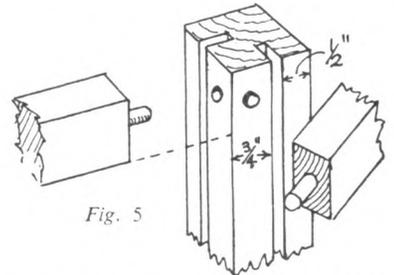
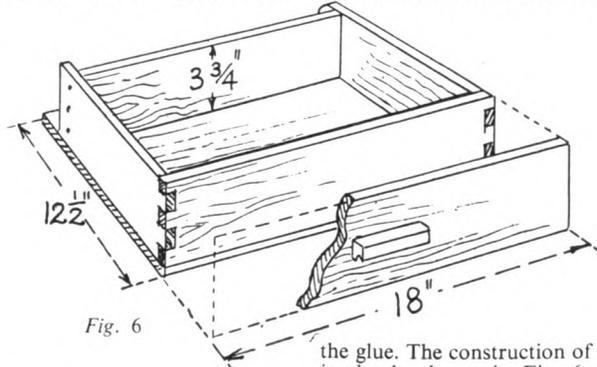

Fig. 5
Fig. 6
and the strengthening angle blocks between legs and rails. Fig. 5 shows the method of dowelling the rails to the legs, and Fig. 6 the construction of the drawer.
The four legs are 36ins. long and 1½ins. square in section. The front two will have one groove each, while the rear two will have two grooves each. All grooves should run to within 6½ins. of the foot of the legs, see Fig. 2, and they should be ½in. in from the outer face of the legs as Fig. 5 shows. The legs are connected up by the pairs of rails (A), (B), (C), (D), (E) and (F), and their position can be calculated from Figs. 2
the glue. The construction of the drawer is clearly shown in Fig. 6. The sides, inner front and the back may be of $\frac{3}{4}$ in. wood, while the main front should be $\frac{1}{2}$ in. oak glued on and screwed from the back.